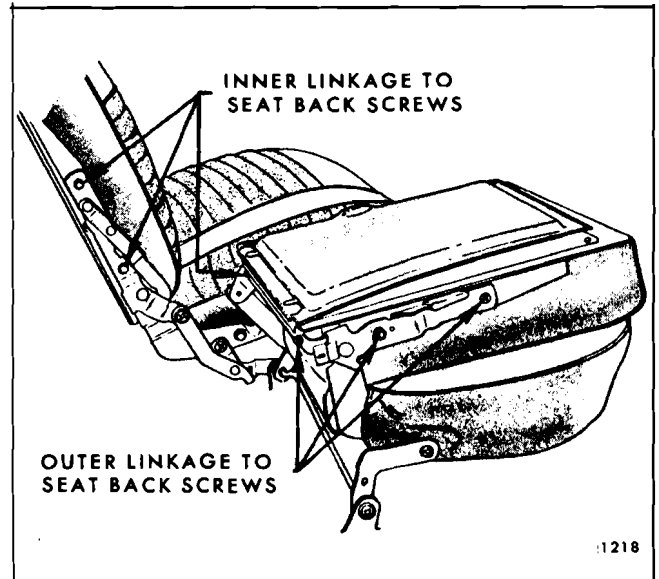

Fig. 15-91—Seat Inner and Outer Linkage (Vista Cruiser and Sport Wagon Styles)
2. Remove outer and inner linkage to seat back attaching screws (Fig. 15-91). Remove seat back lock handle, spring and bushing from between outer linkage and seat back panel; then, remove seat back panel and rear floor filler panel from linkage.